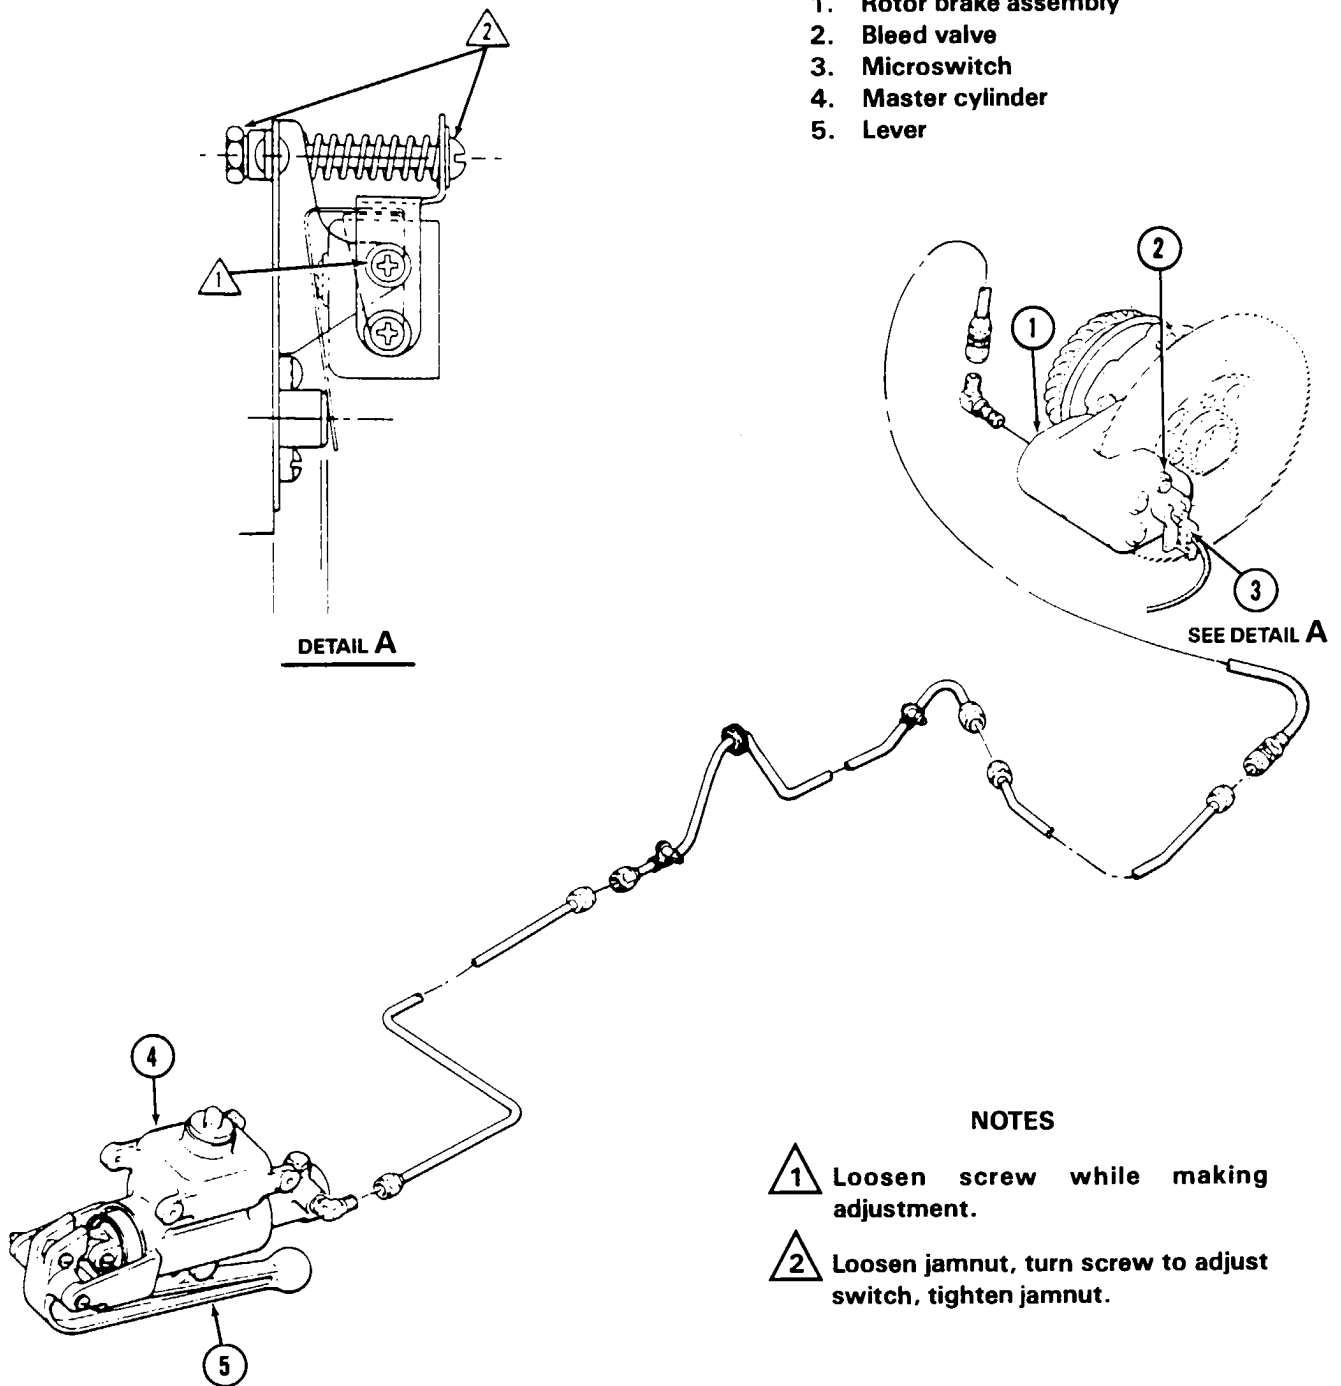

Figure 29-12. Rotor Brake System
29.4.4.1 Check master cylinder (4, Figure 29-12) for proper fluid level, (paragraph 29.4.3).
29.4.5.1.1 Remove sealing compound from around top master cylinder reservoir (4, Figure 29-12).
29.4.5.3.1 Place master cylinder (4, Figure 29-12) in install position, right of overhead console in cabin roof and attach to structure with four bolts, four nuts, and eight washers.